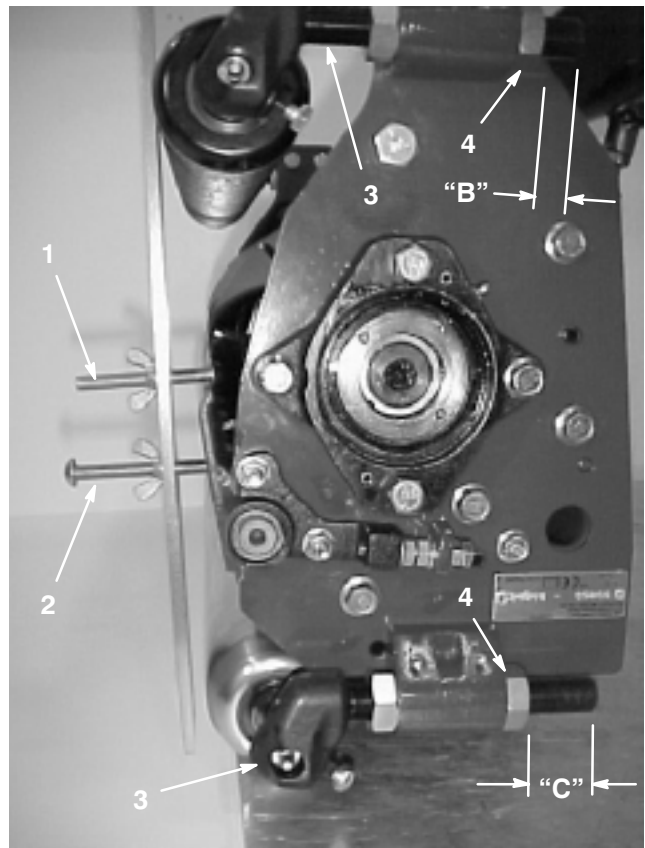

Figure 8
3. Set the front height-of-cut rod height, "B," using the dimension given in Table 1. This measurement is between the top surface of the height-of-cut rod and top cone nut (Fig. 8).
4. Set the rear support casting in either the top or bottom location as indicated in Table 1. Set the rear height-of-cut rod height **.100" (3 mm)** less than the dimension given in Table 1 which will create a gap between the rear roller and the gauge bar (Fig. 8).
Note: Place gauge bar across front and rear rollers. The first screw head should fit snugly over edge of bedknife and the end of second screw should contact bottom of bedknife (Fig. 8). If there is a gap between the front roller and the gauge bar or you can not put the gauge bar on, adjust the front roller until: (1) first (height-of-cut) screw fits snugly over bedknife, (2) second screw just contacts bedknife, and (3) gauge bar touches front roller. Verify front roller (attitude) at each end of the bedknife.